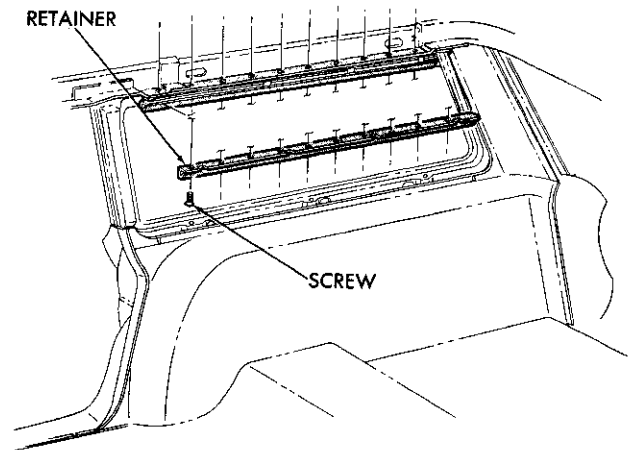

Fig. 130—Weatherstrip Roof Rail Retainer
(8) Remove the roof side rail support retainer from the quarter window area (Fig. 130).
(10) Remove the weatherstrip from the glass.